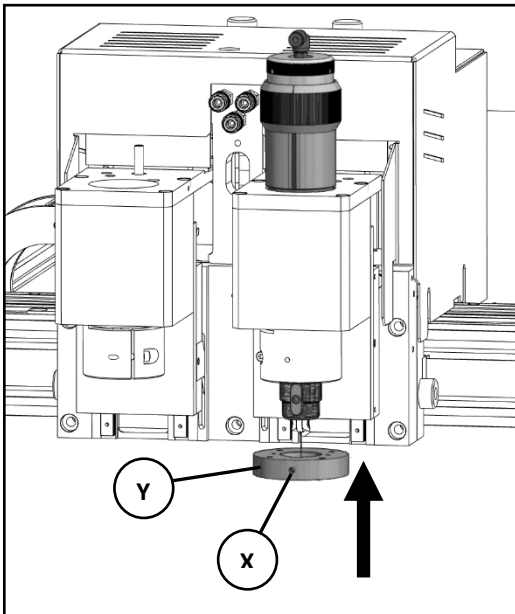

Figure 5-35
To mount any head (W) on the VersaTool, plug it on the magnets flange and when it adheres to the flange, tighten the screw (Z) (Figure 5-35).
- Loosen the screw (Z) (Figure 5-35).
- Hold the release tool/fork (1) by its handle and insert it into the slots located in the top part of the head. Holding the tool with one hand and the release fork tool with the other, insert the fork teeth into the head slots (2) and give it a slight knock to release the head.
- This operation will detach the interchangeable head from the magnets flange, and the head will remain attached to the magnet of the fork (3)